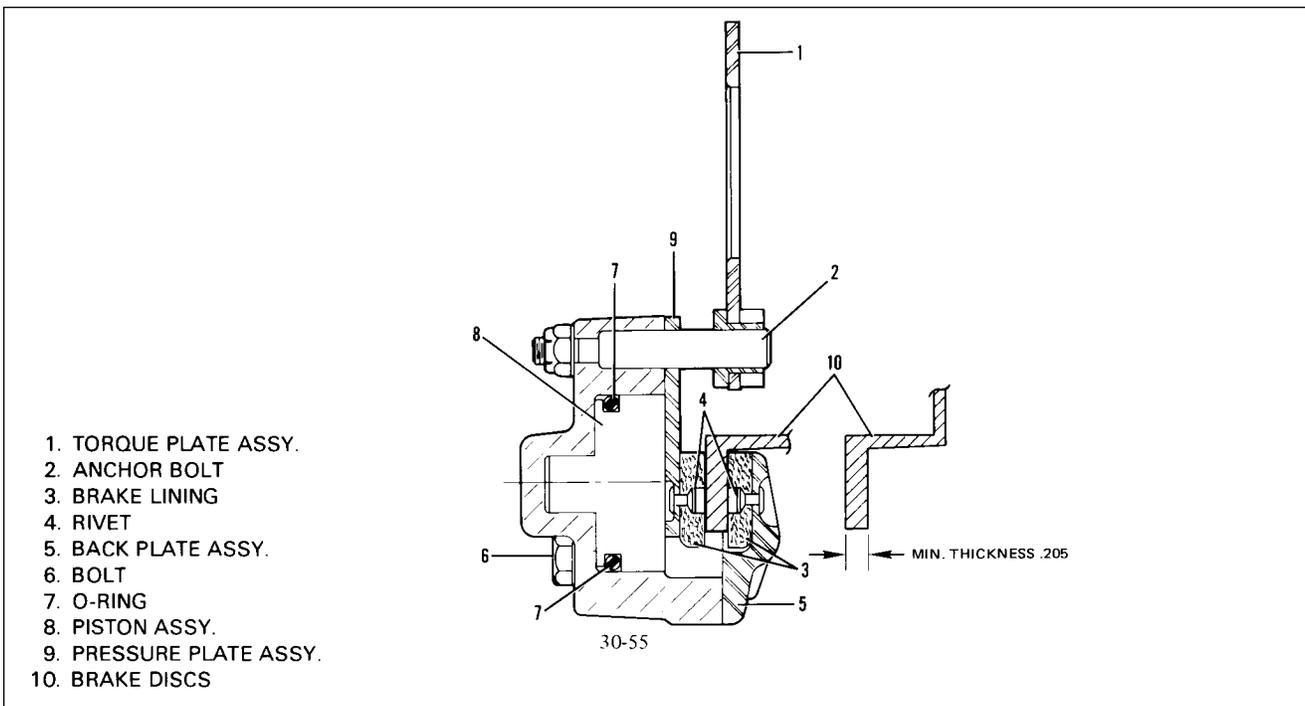

Figure 32-14. Wheel Brake Assembly (30-55)
**REMOVAL AND DISASSEMBLY OF WHEEL BRAKE ASSEMBLY.** (Refer to Figure 32-14.)
**ASSEMBLY AND INSTALLATION OF WHEEL BRAKE ASSEMBLY.** (Refer to Figure 32-14.)